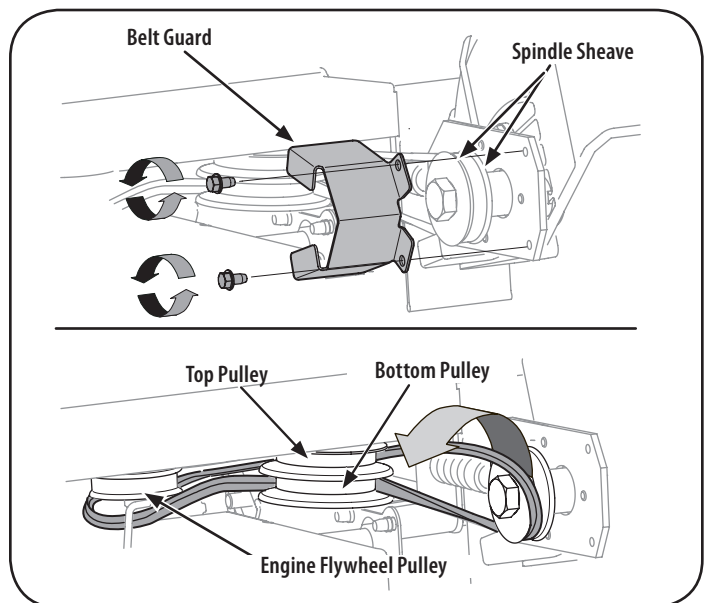

Figure 16
NOTE: Make certain that drive belt is seated correctly on blade spindle and that it is riding smoothly on spindle sheaves (see Figure 16) and is not pinched between them. Repeat first three steps if belt is pinched.
NOTE: Make certain that the drive belt is seated correctly on the blade spindle and that it is riding smoothly on the spindle sheaves (see Figure 16) and is not pinched between them. Repeat the first three steps if the belt is pinched.
3. Remove the spindle sheaves belt guard by removing the two self-tapping screws which secure it to the blade plate assembly. See Figure 16.
4. Carefully remove the belt from off of the pulleys, again making sure to note the orientation of the belt. Discard the belt. See Figure 16.
NOTE: Make certain that the "V" side of the belt is seated into the top pulley and the flat side of the belt is seated into the bottom pulley. See Figure 16.